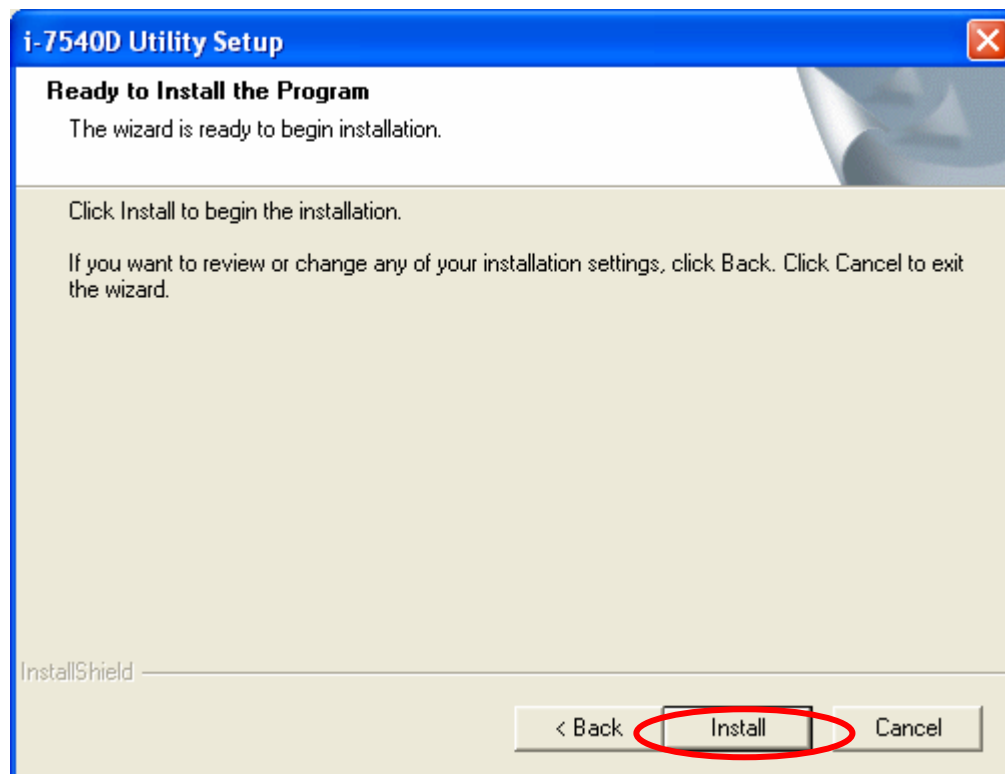

Figure 3-5: “Successful Completion of the Installation” dialog
**Step 6:** Click “Install” button and start to install the i-7540D Utility to the system. After finishing the process, a “Complete” window will pop up to prompt users that the successful completion of the installation. And click “Finish” button to exit. See figure 3-5.